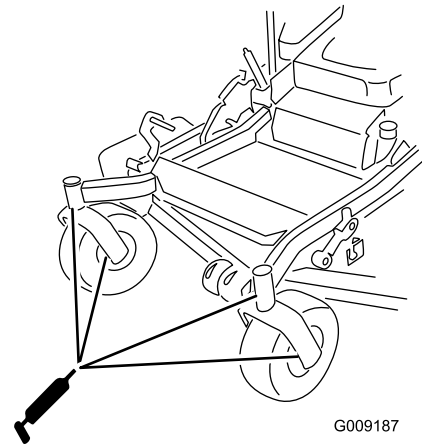

Figure 40
10. Install the hex plug and dust cap (Figure 40).
11. Grease the caster-wheel bearings (Figure 40).